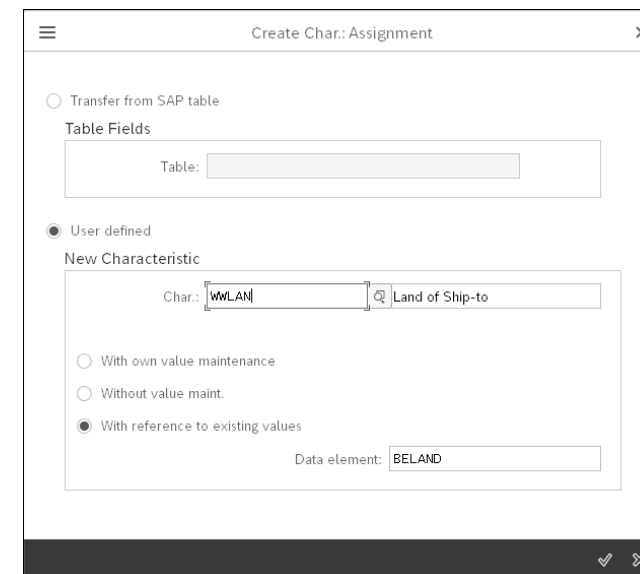

Figure 3.19 Create the Characteristic with Reference to Existing Values
**Create a characteristic for country of ship-to** For this example, create a **User defined** characteristic with reference to an existing characteristic (see Figure 3.19), which means that the characteristic takes on the same values as the reference characteristic. Enter the technical